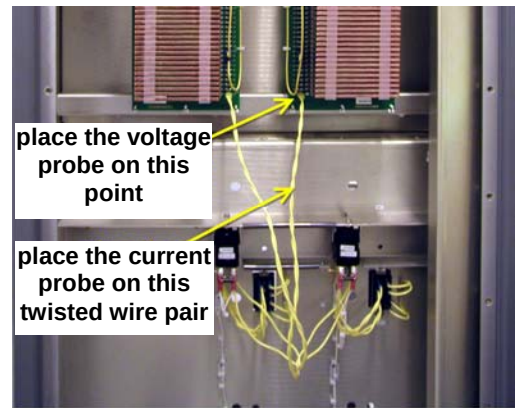

Figure 6: Monitoring PA Voltage and RF Current
- (a) Install the RF current probe and connect the RMS voltage meter as shown in Figure 6. NOTE that current will flow from the plug to the inductor. Reinstall the transmitter's rear cover, taking care not to damage the probe or voltage meter leads.